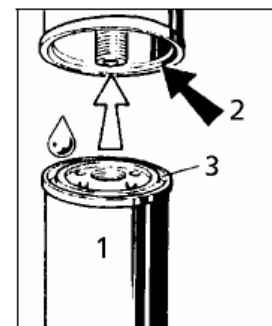

Fig. C- 37
2. Loosen and unscrew the filter cartridge (Fig. C 37:1) with standard tools. Collect any leaking fuel.
3. Clean the sealing surface of the filter support (Fig. C 37:2) from any dirt that might have collected. Lightly oil the rubber seal (Fig. C 37:3) of the new filter cartridge or moisten with Diesel fuel.